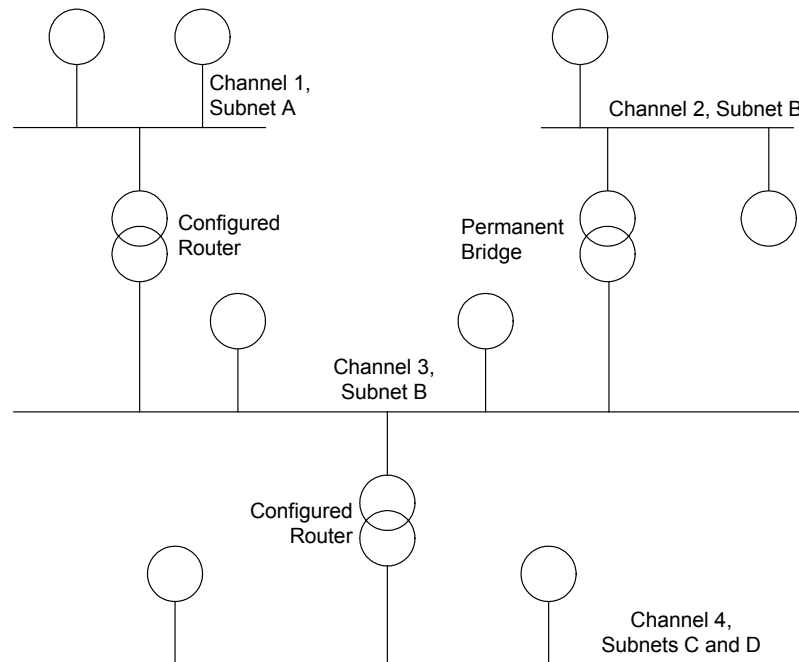

Figure 8.2 Subnets, Channels and Routers
If your application explicitly controls subnet assignment in this manner, certain constraints must be observed. Figure 8.2 helps illustrate these concepts:
1. Each channel can be assigned to more than one subnet. In figure 8.2, Channel 4 is assigned to Subnets C and D.
2. Each subnet can only be assigned to a single channel, unless it is assigned to multiple channels that are connected by permanent bridges or permanent repeaters. In Figure 8.2, Subnet B spans Channels 2 and 3,